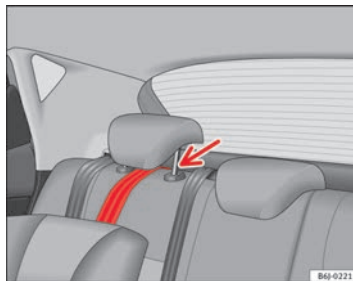

Fig. 28 Retainer strap: correct adjustment and fitting
- Guide the Top Tether fastening belt under the rear seat head restraint ⇒ Fig. 28 (lift the head restraint where necessary).